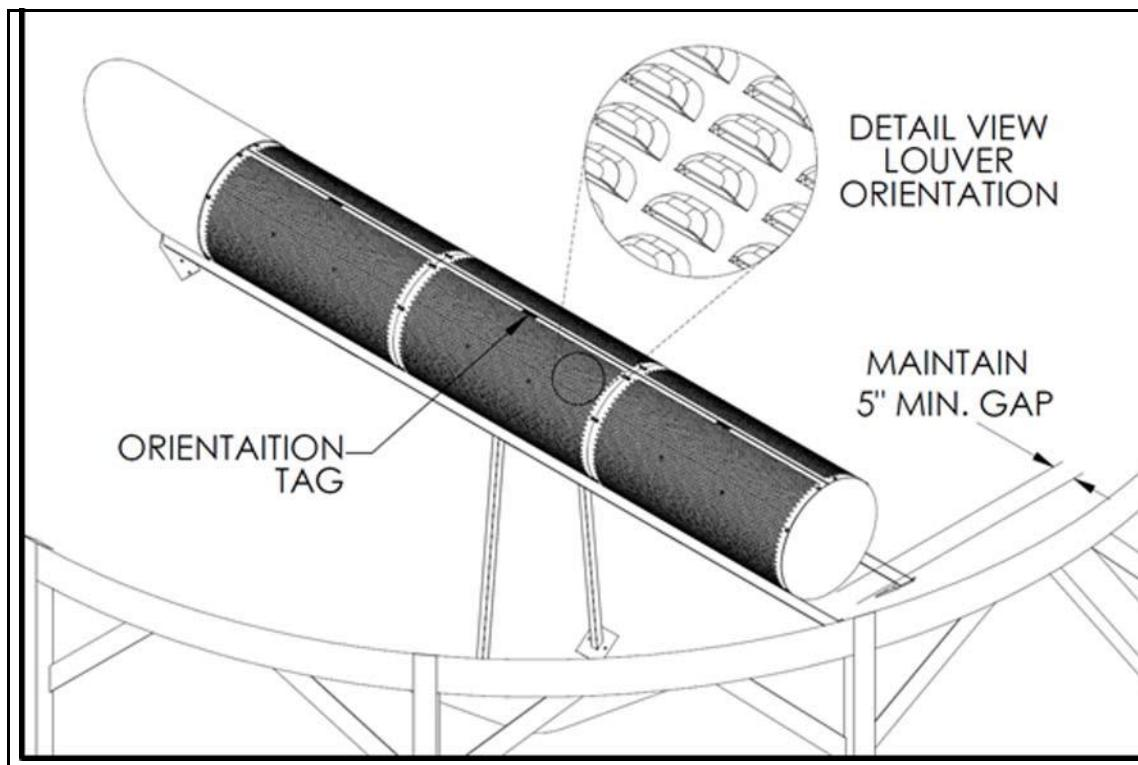

Figure 1.3 Tube Installation
1. Place and join the tube sections on the support, with louver opening facing down, See Figure 1.3. For further reference tube sections are shipped with a tag identifying the top of the tube.